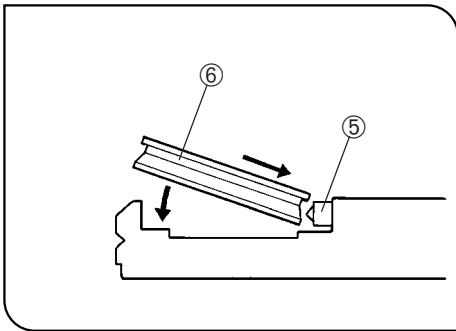

Fig. 49
4. Hold a phase contrast ring and, while pushing the spring ⑤ inside the turret with the edge of the phase contrast ring ⑥, insert the ring completely in the turret position until the ring frame contacts the bottom of the position. (Fig. 49)